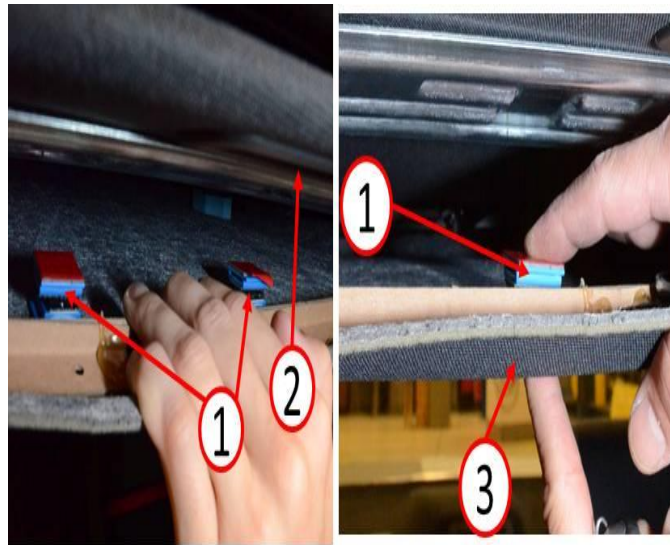

Fig. 3 Setting The Fastener
6. Apply 3M Duramix 4747 or equivalent to the now sanded surface of the dual lock fastener that will be bonded to the headliner with the other dual lock clip attached as shown in (Fig. 3).
NOTE: Apply slight pressure to the dual lock fastener and hold in place for 30 seconds to ensure a good bond and repeat for the other clip(Fig. 3). Allow adhesive to cure for 5 minutes .